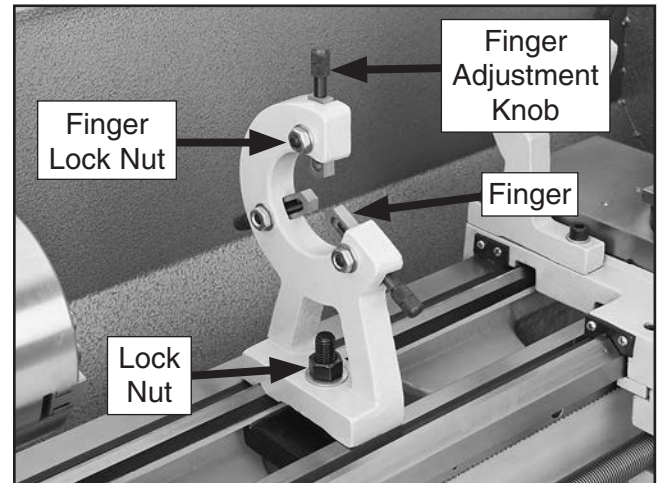

Figure 46. Steady rest components.
Familiarize yourself with the steady rest components shown in **Figure 46** to better understand its operation.
3. Loosen the finger lock nuts shown in **Figure 46**, turn the finger adjustment knobs, and adjust the fingers as required for the workpiece.